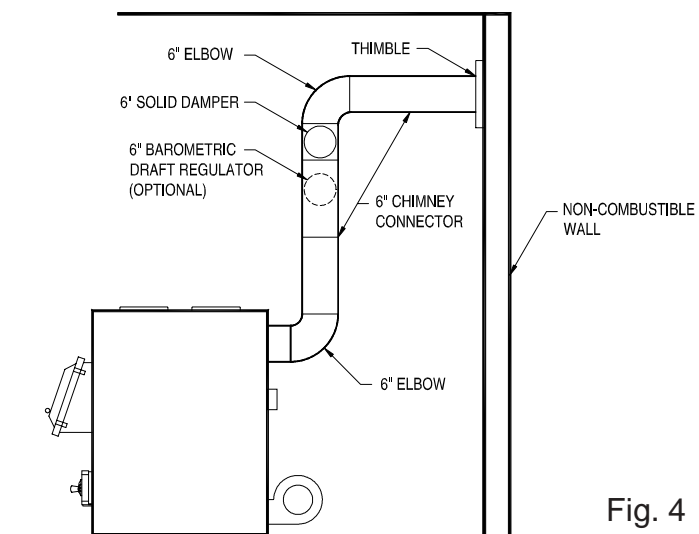

Fig. 4
Before using an existing masonry chimney, clean the chimney and inspect the flue liner to be sure it is safe to use. Make repairs before attaching the furnace. See page 4, item 5. Look at Fig. 4. The connector pipe and fittings you will need to connect directly to a masonry chimney are shown. The chimney connection should be as short as possible.
7. The chimney connector may include a section for a barometric draft regulator between the furnace and the chimney (Fig. 4,5, &7). The barometric draft regulator must be installed in the same room (same pressure zone) as the furnace.
9. A solid damper must be used in the chimney connecting pipes between the flue collar and the chimney. When used in conjunction with a barometric draft regulator, the solid damper must be placed between the barometric and the chimney. (See Fig. 4,5,7)